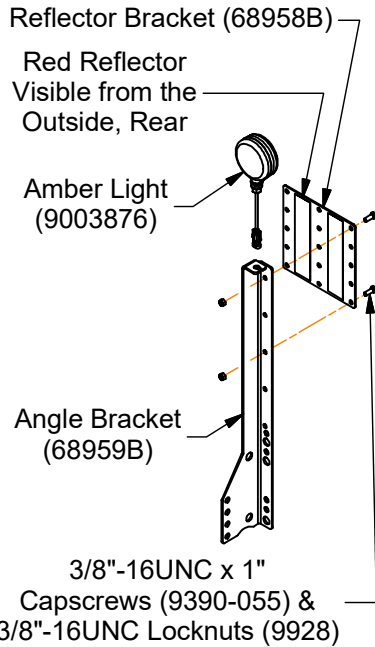
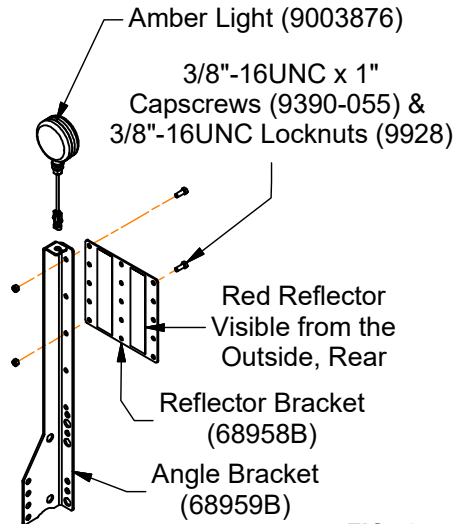

FIG. 2-16
FIG. 2-17
1. Reattach the reflector brackets (68958B) on the left-hand outer reflector assembly and right-hand outer reflector assembly at the top of the angle bracket with the red reflector farthest from the angle bracket as shown in FIG. 2-16 and FIG. 2-17 with 3/8"-16UNC x 1" capscrews (9390-055) and 3/8"-16UNC locknuts (9928). Secure the amber lights (9003876) to the top of the reflector assemblies.